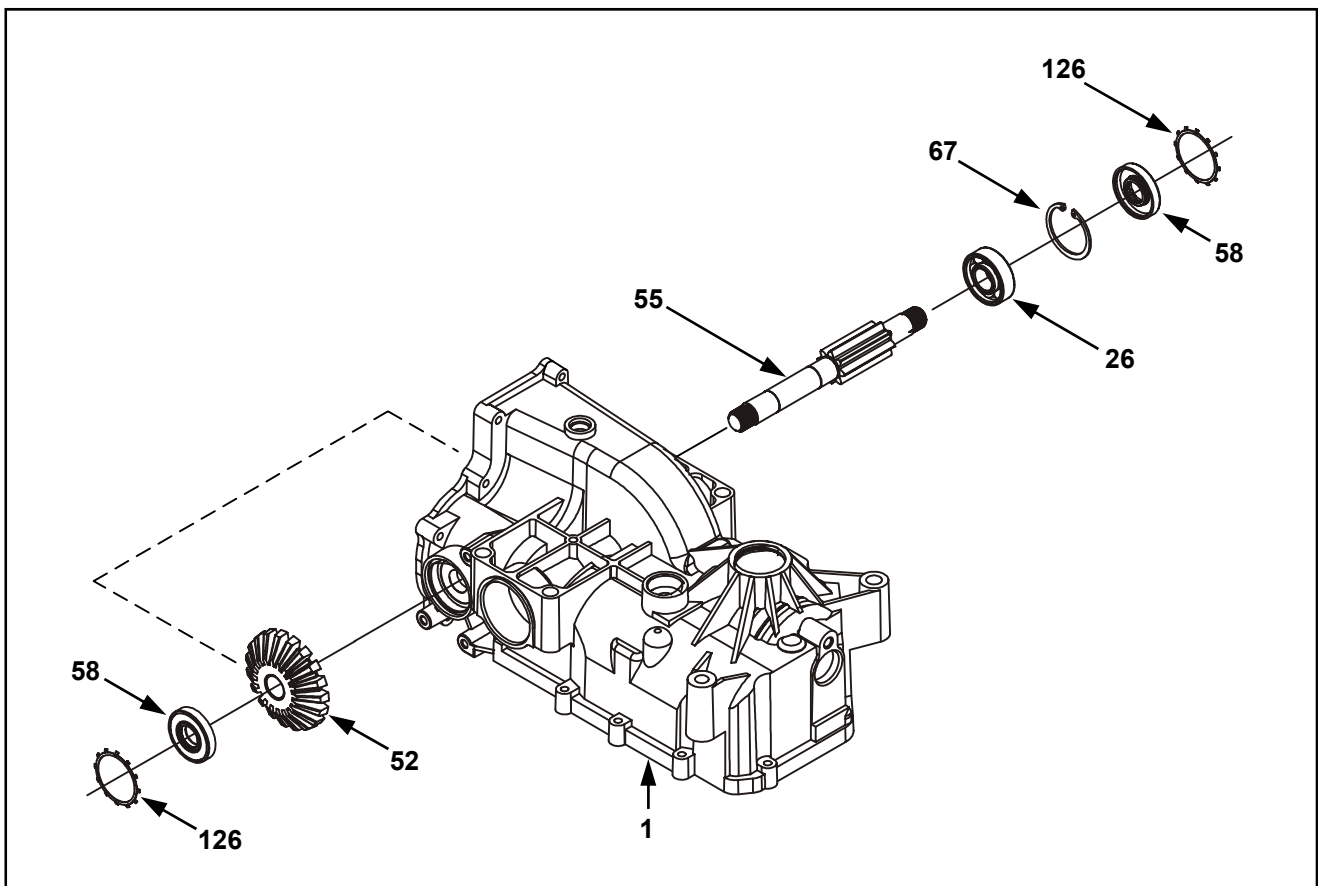

Figure 11. Brake Shaft & Bevel Gear Assembly
1. Slide the stators (127) and rotor (73) onto the brake shaft (55, Figure 11). Pay close attention to the stack up of the stators and rotor.
2. Install the brake yoke (131) with the three brake yoke screws (123) onto the main housing (1). Refer to Table 5 for the required torque.
3. Install the brake actuating pins (129) and compression spring (130) onto the brake yoke (131).
4. Install the brake arm (70), washer (19) and slotted hex nut (133) onto the brake yoke (131). Do not tighten the slotted hex nut (133) at this time.
5. Insert a .020" (0.5 mm) feeler gage between the brake rotor (73) and outer stator (127). Adjust the brake by tightening or loosening the slotted hex nut (133).
6. Install a new cotter pin (128) to secure the slotted hex nut (133).
Refer to Figure 11.